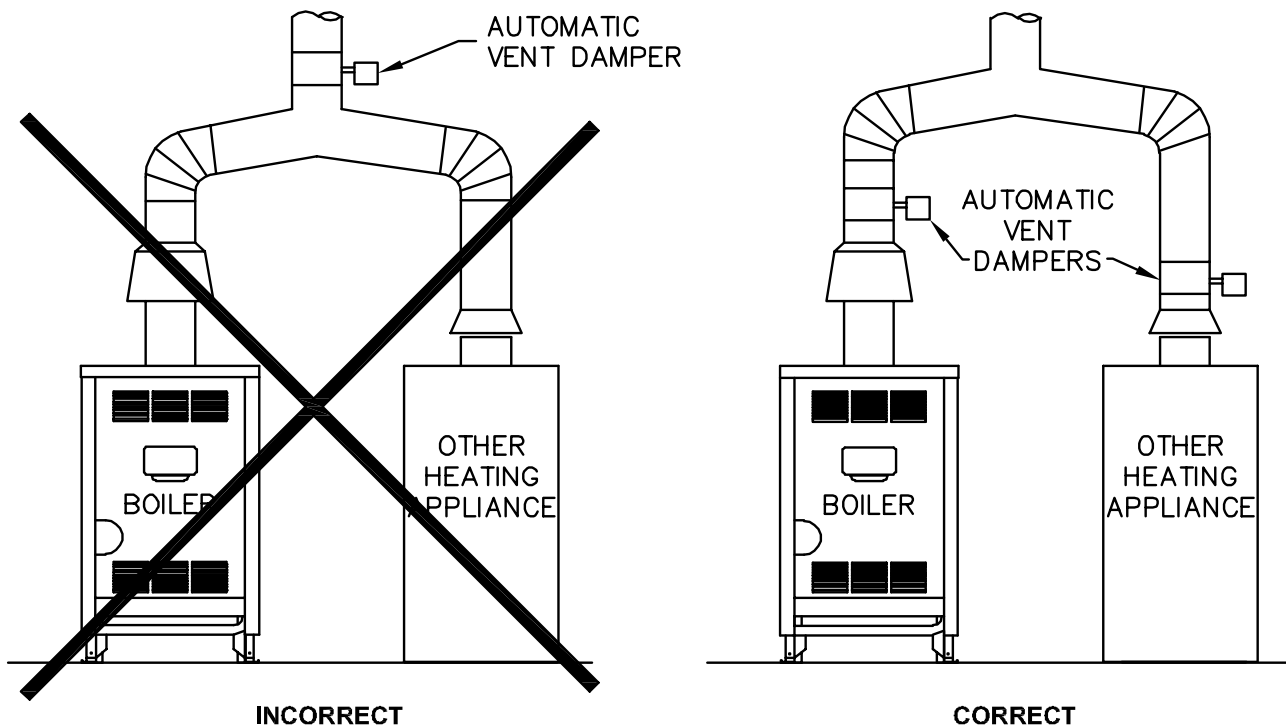

Figure 4.2: Venting Multiple Appliances
1. Do not use one vent damper to control two or more heating appliances. See Figure 4.2.